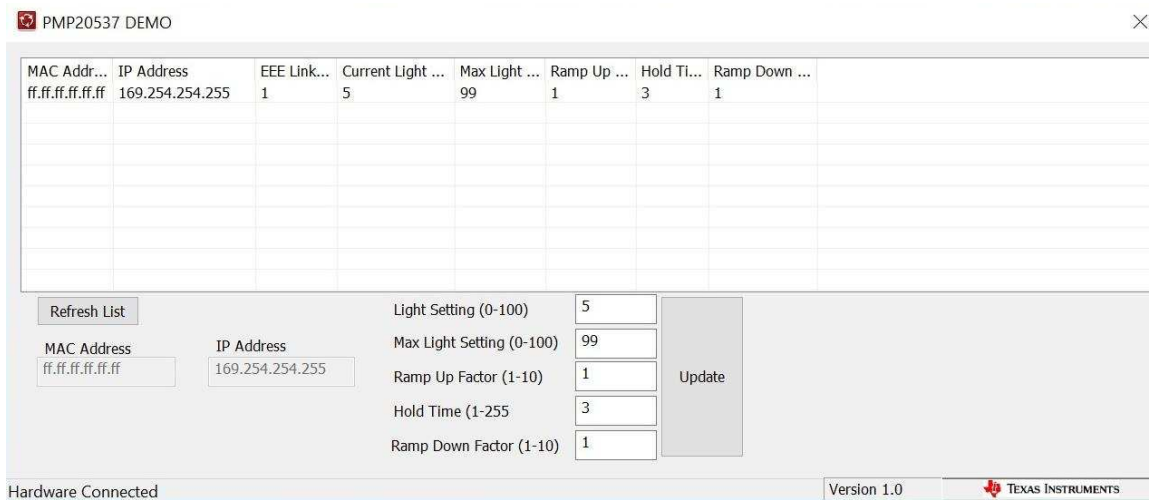

图 24. PMP20537DEMO Software
After connecting the test setup to the PC and powering on the light, start *PMP20537 Demo*. The window in 图 24 appears.
4. Click *Refresh* to see the settings reflected on 图 24.